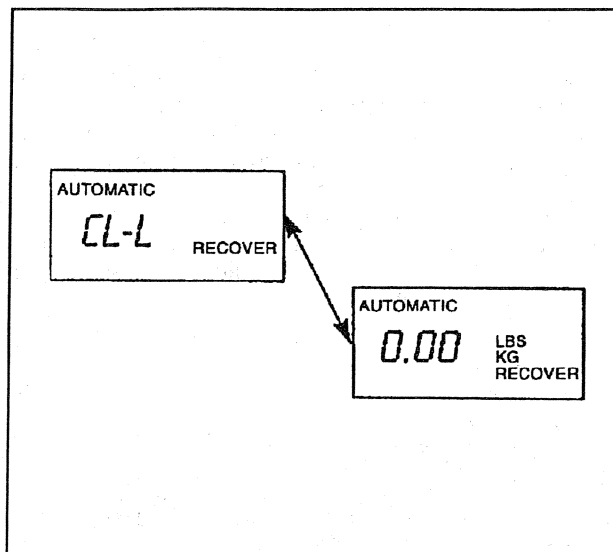

Figure 19—Refrigerant Recovery Display at Start
9. Press "RECOVER" on the key pad. Before recovery begins, the unit will clear itself of refrigerant. "CL-L" will appear on the display. The clearing process takes from 30 seconds to 3 minutes to complete (figure 19).